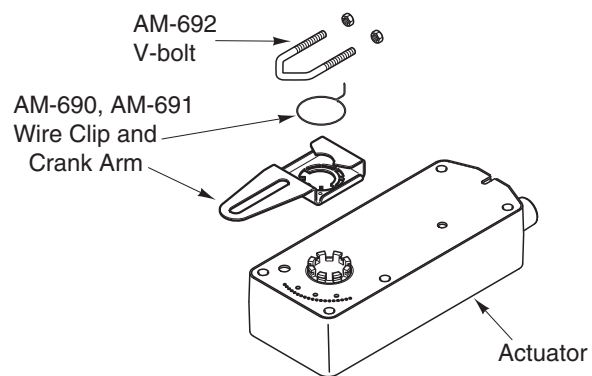

Figure-6 Installation of AM-69x Crankarm and AM-692 V-bolt Kit.
3. Secure the crankarm using the wire clip provided. See Figure-6. Place the wire clip inside the crankarm, making sure to align the wire clip with the grooves on the actuator mounting. Tighten the wire clip with finger pressure until it clicks into place.
3. Secure the crankarm in place using the wire clip provided. See Figure-6. Place the wire clip inside the crankarm, making sure to align the wire clip with the grooves on the actuator mounting. Tighten the wire clip with finger pressure until it clicks into place.